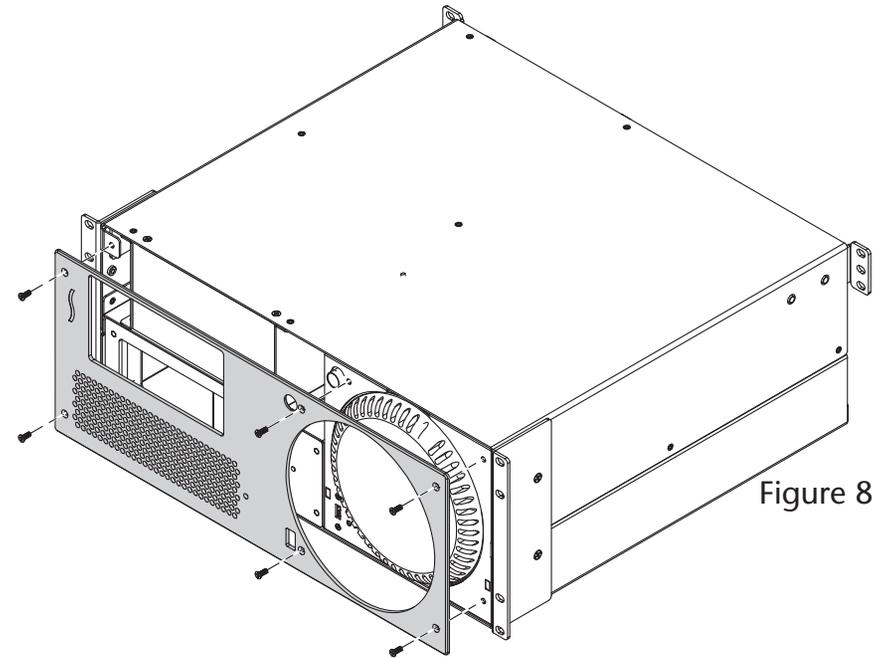

Figure 8
3. Using a Phillips screwdriver, remove and set aside the six screws securing the front panel to the rackmount enclosure, being careful to prevent the front panel from falling off (Figure 8). Set aside the front panel.